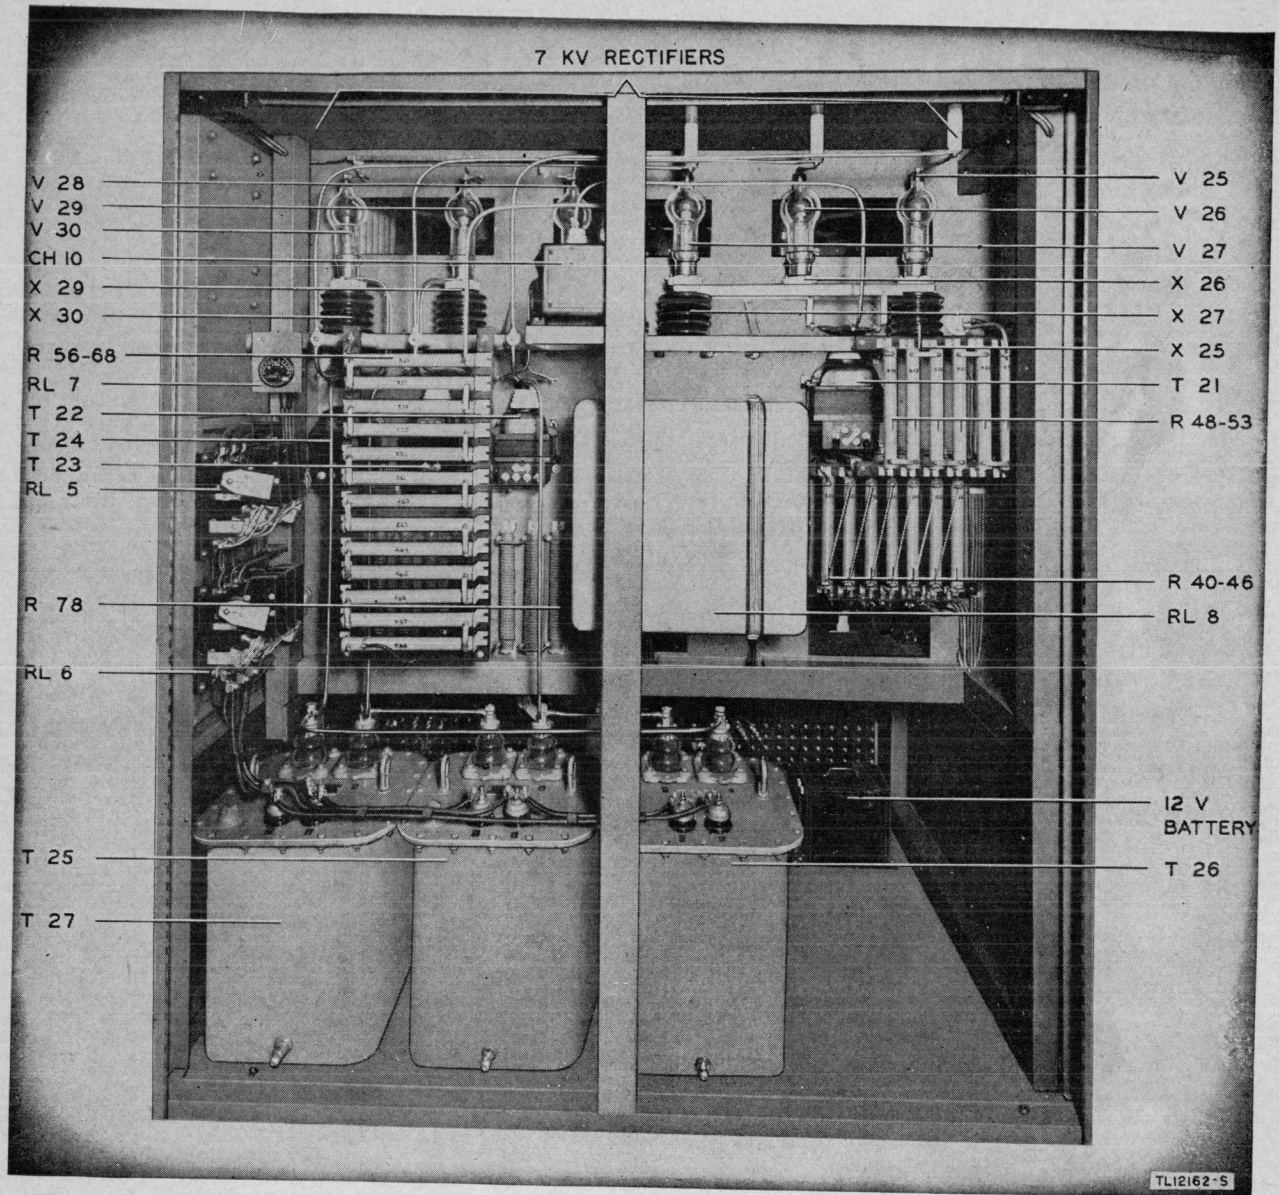

Figure 10. High voltage rectifier viewed from rear of cabinet.
h. **HIGH-VOLTAGE POWER SUPPLY.** The high-voltage power supply is located in the rear section of the rectifier-exciter unit. (See fig. 10.) It supplies 7 kilovolts (kv) to the plates of the p-a tubes.
Many of the transmitter components have been removed prior to shipping. Most of these components have been packed in separate boxes. Unpack all these components and install them in their proper places. The main plate transformers T25, T26, and T27 are packed in a separate crate and must be installed in the rectifier compartment. Their mounting position in the rectifier compartment is clearly shown in figure 10. All cables and electrical bus wire connections are clearly marked and tagged for proper assembly.